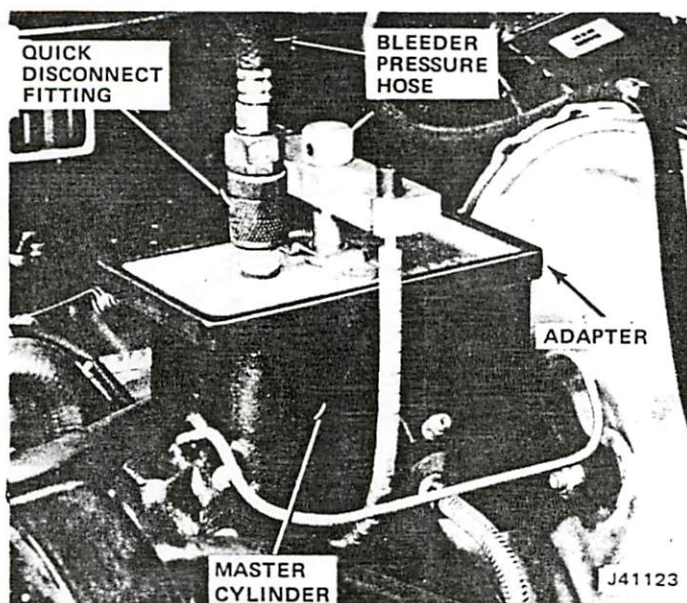

Fig. 2G-19 Pressure Bleeder Adapter Installation—Typical
(1) Remove all accumulated dirt from master cylinder and cover.
(2) Remove cover and rubber diaphragm seal. Place cover on work bench or on lint-free cloth. Do not allow diaphragm seal to contact dirt or foreign material.
(3) Fill master cylinder if required.
(4) Install brake bleeder adapter cover on master cylinder (figs. 2G-19 and 2G-20).
(5) Connect hose from pressure bleeder to fitting on adapter and open pressure bleeder release valve.
(6) On vehicles with type-W combination valve, remove dust cover from metering valve stem and install Tool J-26869 on stem to hold valve open (fig. 2G-17).
(7) On vehicles equipped with type-D combination valve, loosen valve front mounting bolt and insert slotted end of Tool J-23709 under bolt. Push metering valve stem inward (using tool) to hold valve open and tighten mounting bolt to secure tool (fig. 2G-18).
(8) Bleed brake system in following sequence: